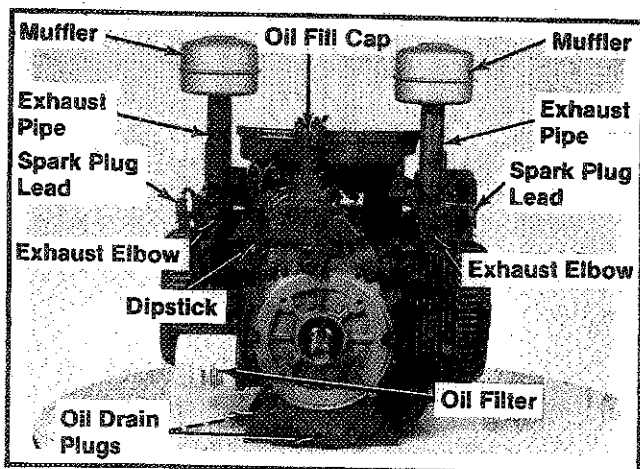

Figure 11-54. Installing Mufflers, Oil Filter, Oil Drain, And Spark Plug Leads.
2. Install the exhaust pipes and mufflers. Refer to Figure 11-54.